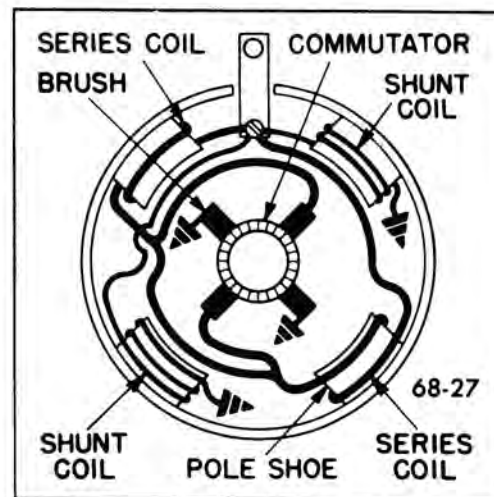

Figure 68-21--Starting Motor Internal Circuits - 400-430 Engines
The large V-8 cranking motor has two parallel field coils connected to the insulated brushes, and two shunt field coils connected to ground. The purpose of this design is to increase starting torque. Heavier field and armature windings help accomplish this. The additional shunt field is required to control free speed of the motor. See Figure 68-21.
4. Remove two screws holding solenoid to drive housing and remove solenoid. Remove small nut and insulating washer from the solenoid "S" terminal. Remove large nut and insulating washer from the solenoid battery terminal. See Figure 68-21 or 22. Then, remove two screws that attach switch cover to solenoid and remove cover for inspection of switch parts.